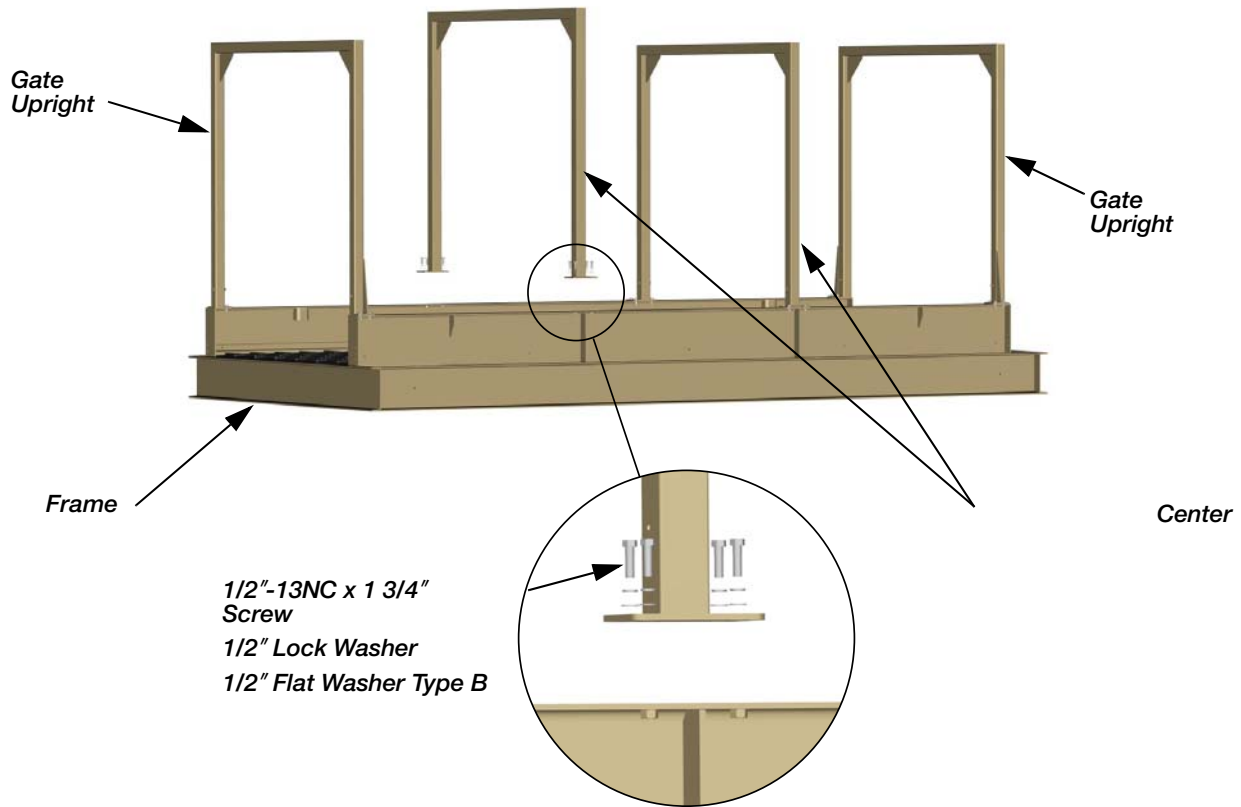

Figure 2-2. Install Internal Overhead Assemblies
5. Install the two internal upright assemblies and the two gate upright assemblies to the base frame using the hardware provided. See Figure 2-2.